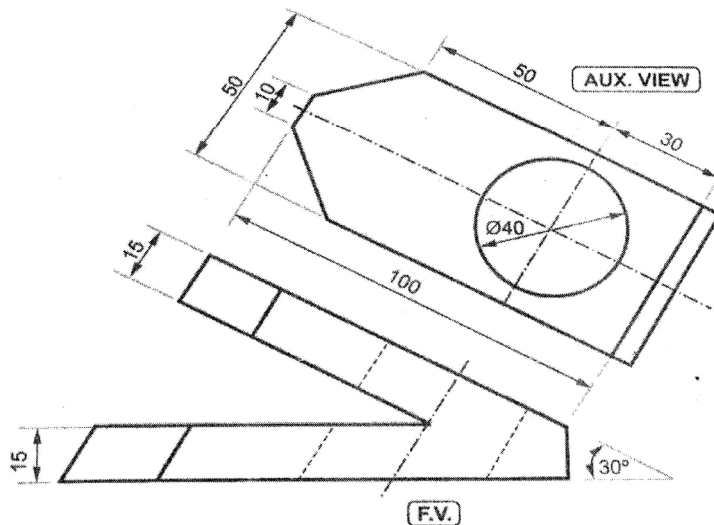

Fig. 3
- 5.** Fig. 3 shows front view, auxiliary top view of an object :